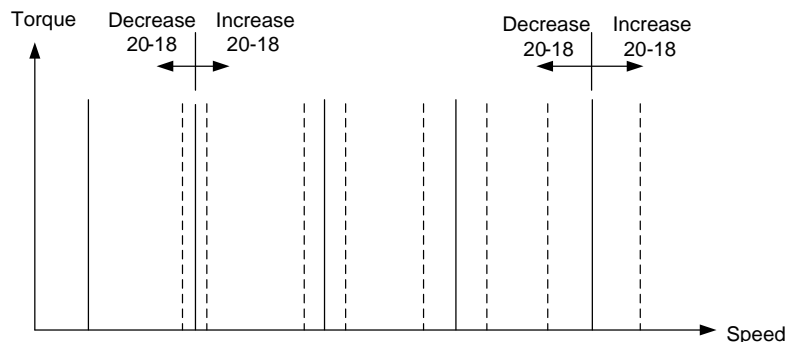

Figure 4.4.100 Effect on the torque-speed curve from 20-18
- Use parameter 20-18 to adjust the torque compensation gain for middle to high speed range. For most general purpose applications, it is not necessary to adjust the 20-18. By tuning 20-18 an offset is added to the torque-speed curve. Increase 20-18 when the no-load speed is lower than the frequency reference. Decrease 20-18 when the no-load speed is higher than the frequency reference. The effect on the torque-speed curve from 20-18 is shown as the following Fig.4.4.100.